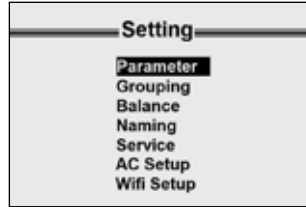

Figure 5.
- Go to 'Setting' menu by holding and buttons at the same time for 5 seconds (Figure 5).